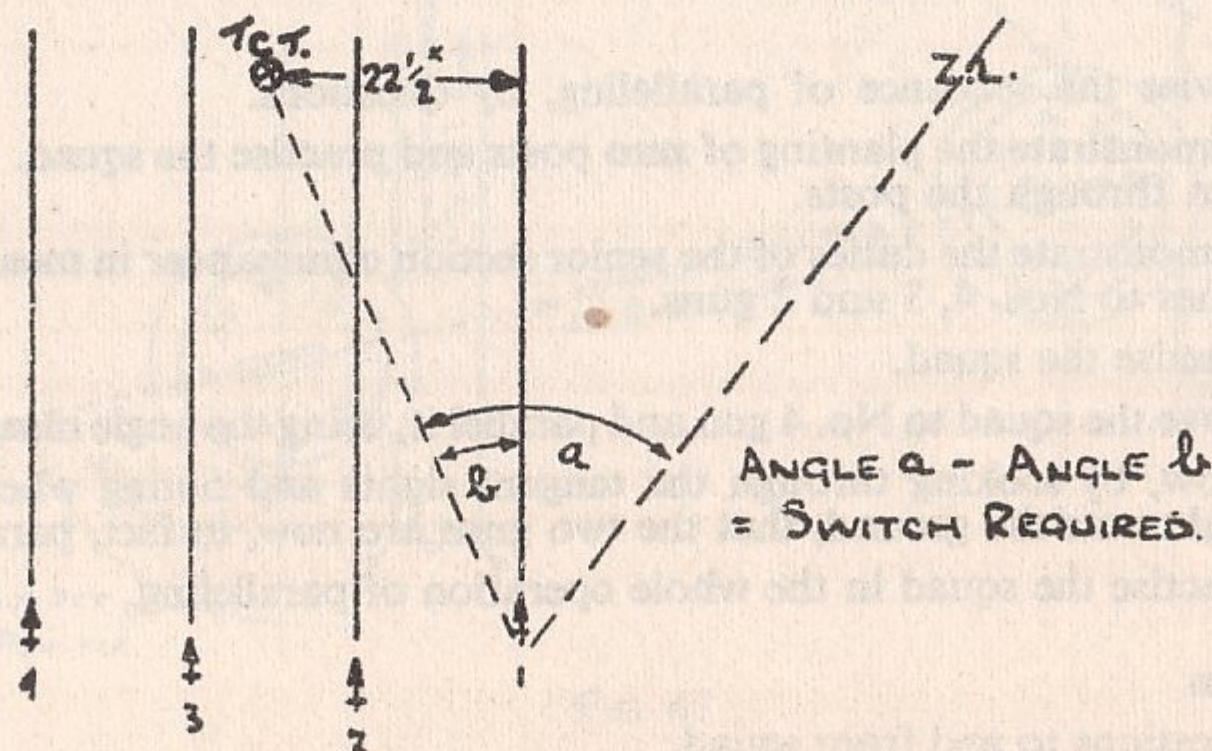

FIG 48
7. Explain that when engaging a point target or a target of less width than the gun frontage, the parallel lines of fire of the four guns should be so laid that they straddle the target. As the lines of fire normally cover a frontage of 45 yards, the line of fire of No. 1 gun should fall  $22\frac{1}{2}$  yards to the right of the centre of the target (see Fig 48).